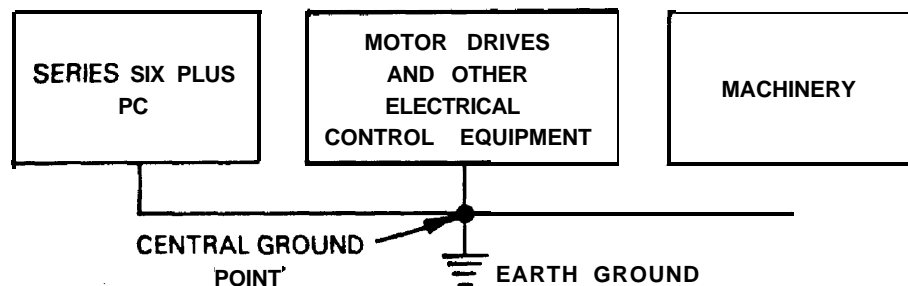

Figure 3.12 PLC SYSTEM GROUNDING
1. Ground conductors should be connected in a tree fashion with branches routed to a central earth ground point. This ensures that no ground conductor carries current from any other branch. This method is shown in figure 3.12.